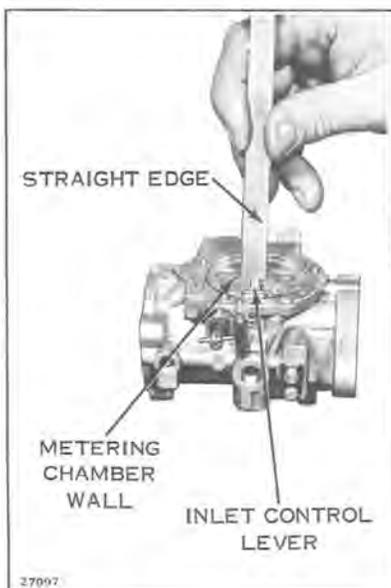

Figure 6-5
1. Adjust the inlet control lever so that the center of the lever that contacts the metering diaphragm is flush to the metering chamber wall. Check with straight edge. See Figure 6-5.